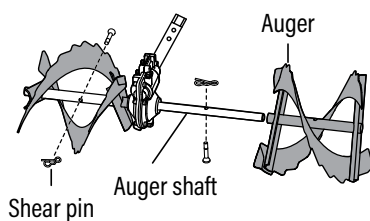

Fig. 18B
3. Remove the left and right shear pins and separate the augers from the auger shaft. (Fig. 18B)